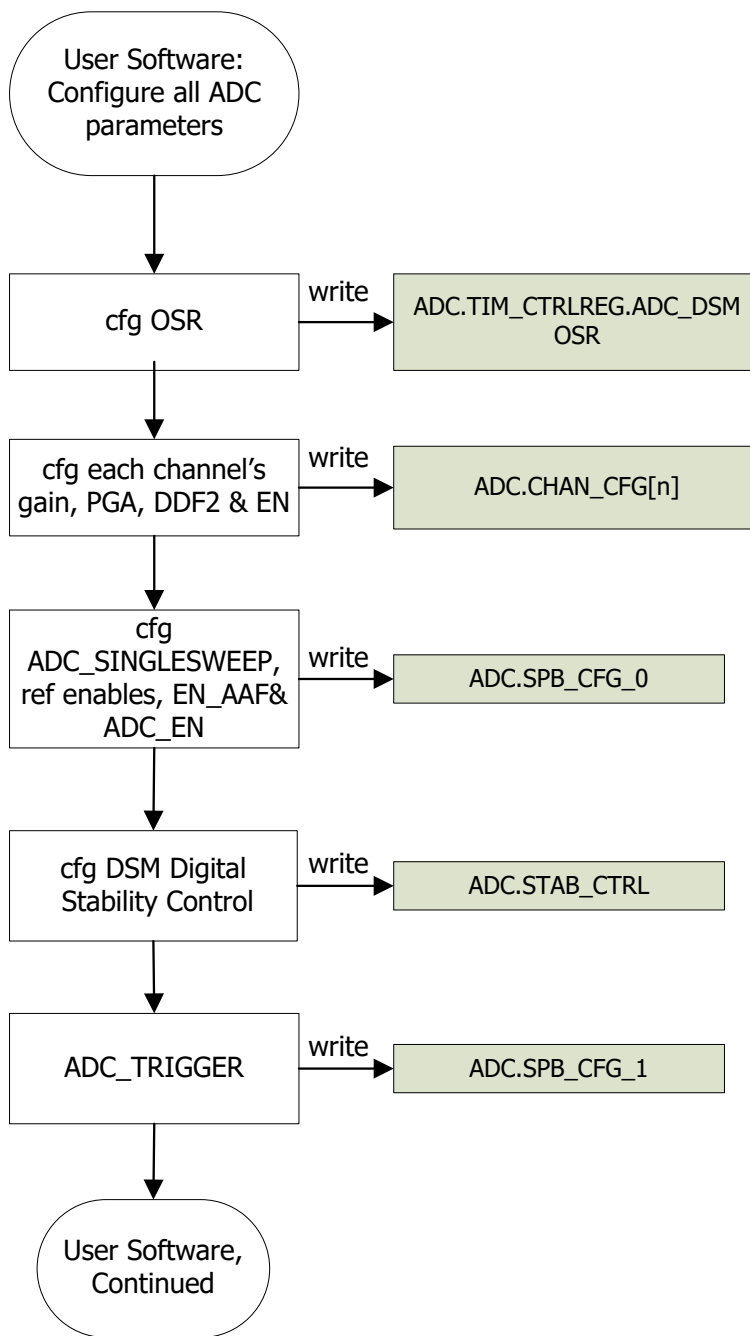

Figure 14.2: ADC configuration and trigger
1. Configure the ADC options as listed in Figure 14.2, with ADC_SINGLESWEEP = 0.
3. Write an ADC_TRIGGER as listed in Figure 14.2.
1. Configure the ADC options as listed in Figure 14.2, with ADC_SINGLESWEEP = 1.